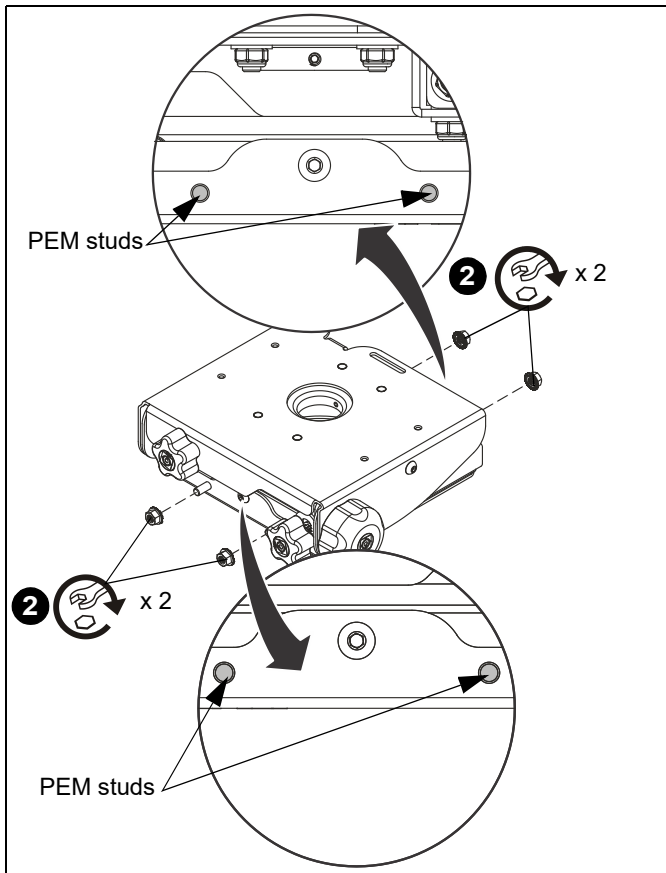

Figure 2
- Loosely add four M8 flange nuts (included with interface bracket) on two PEM studs at each end of the VCT mount (A). (See Figure 2)